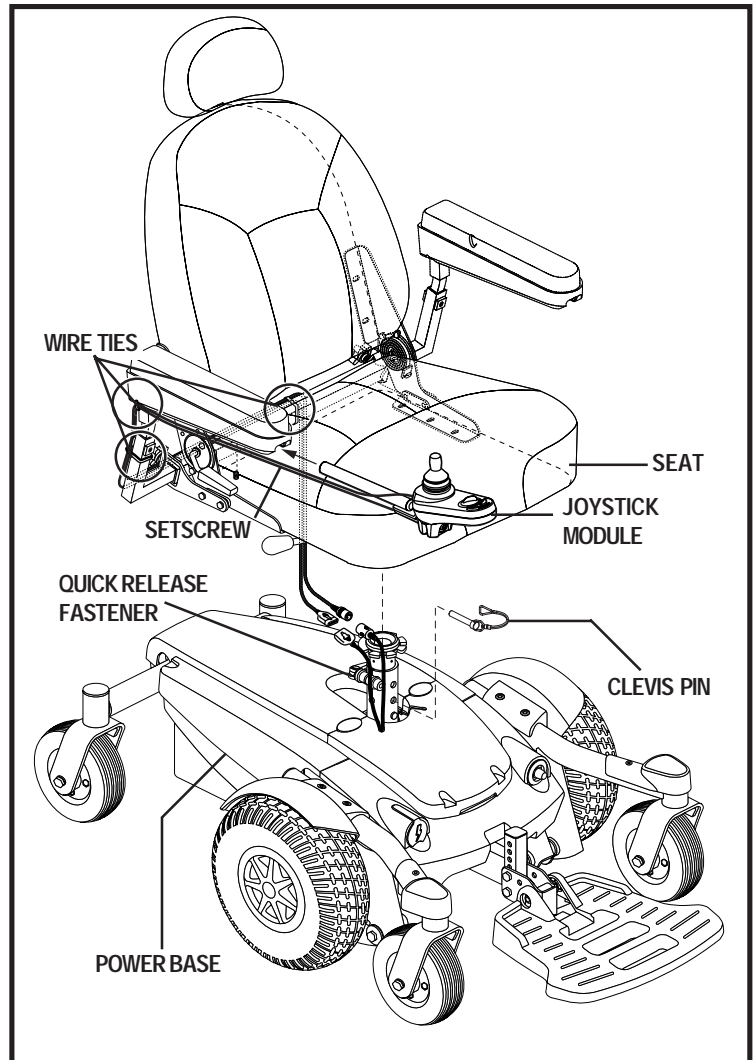

Figure 11. Seat and Controller Assembly
1. Slide the seat down onto the power base. See figure 11.
3. Install the controller connector into one of the armrests. Tighten the setscrew with the supplied hex key. See figure 11.
4. Lift the armrest straight up, then route the controller cable and secure with wire-ties as shown in figure 11.
10. Route the controller and XLR off-board charger harness along the seat frame and secure with wire ties. See figure 11.